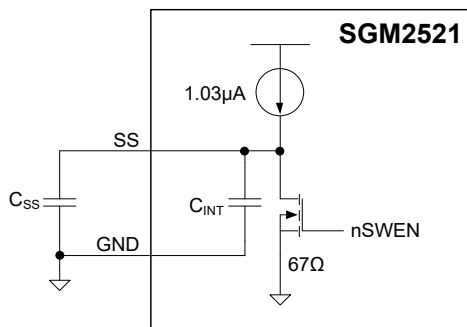

Figure 4. Output Ramp Time t_{dVdt} is Set by C_{dVdt}
SGM2521/1A/2/2A are designed to control the in-rush current upon insertion of a card into a live backplane or other "hot" power source. This limits the voltage sag on the backplane's supply voltage and prevents unintended resets of the system power. A slew rate controlled start-up (SS) also helps to eliminate conductive and radiated interference. An external capacitor from the SS pin to GND defines the slew rate of the output voltage at power-on (as shown in Figure 4). The equation governing slew rate at start-up is shown in Equation 1: